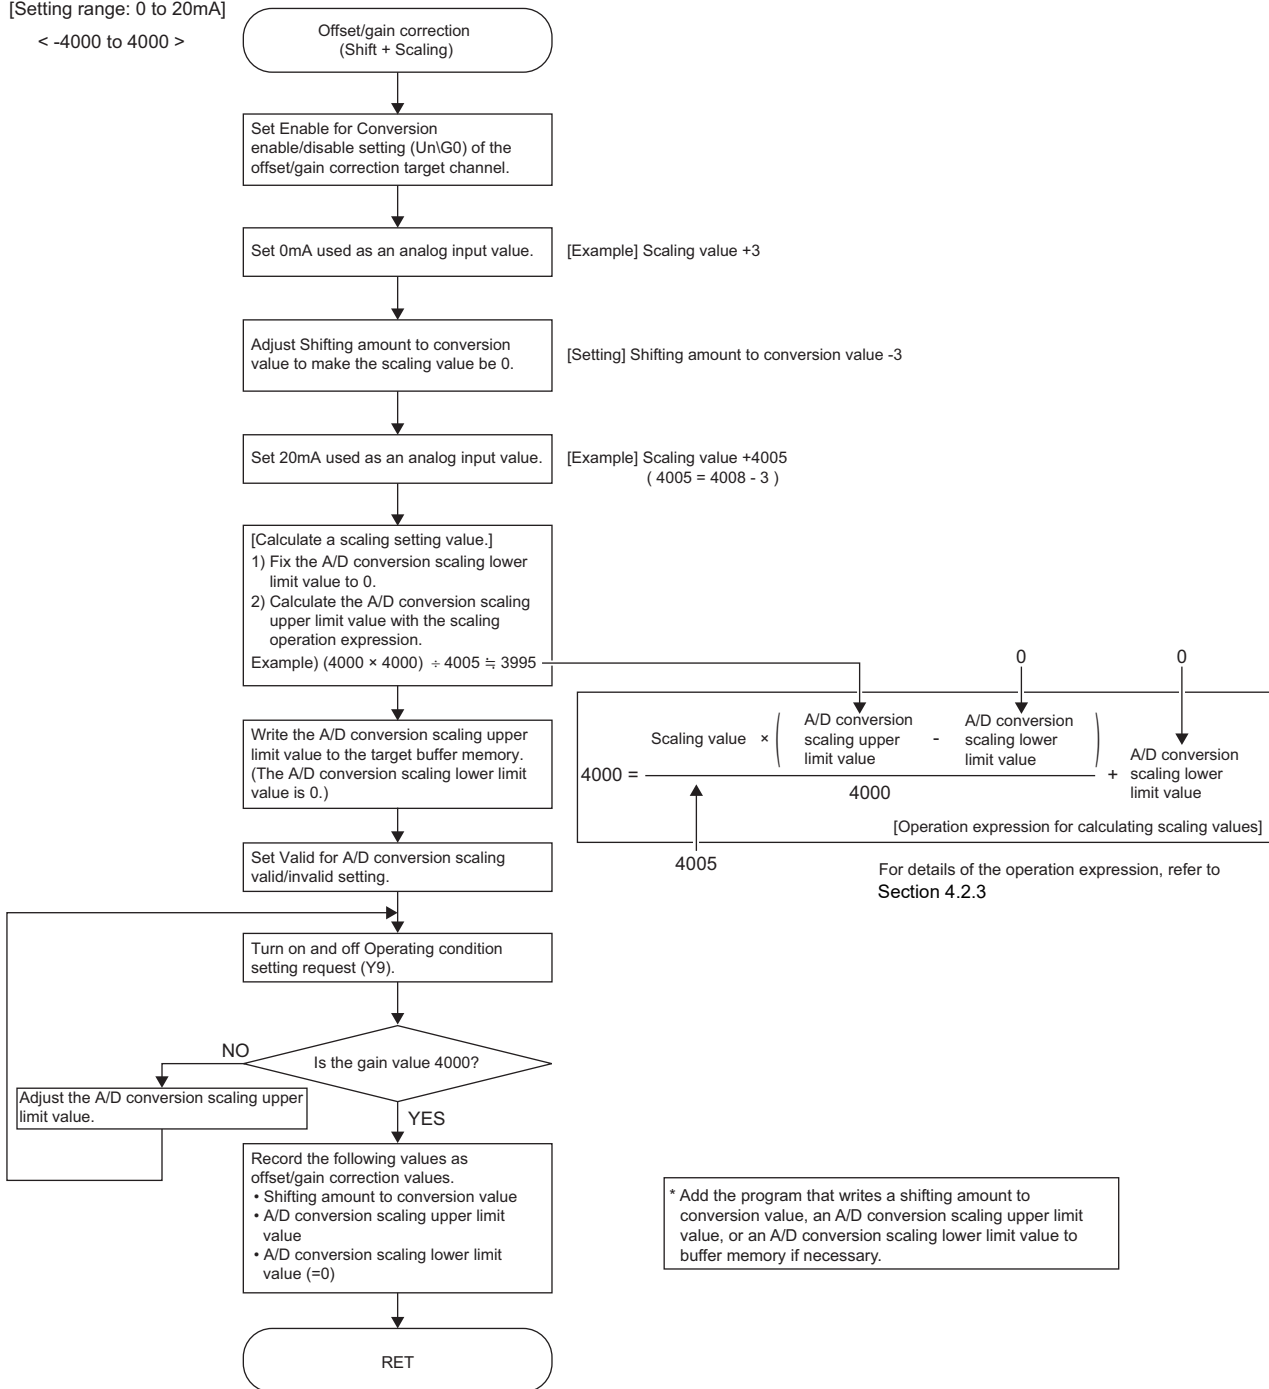

Figure 7.14 Offset/gain correction example (A/D conversion)
- (1) When offset/gain are corrected using the scaling function and shift function, resolution may be reduced. In the example of Figure 7.14, the resolution is reduced at 0.125%.
- (2) When offset/gain are corrected using the scaling function and shift function, the functions cannot be used for other applications.
- (3) When a module is replaced online, corrected offset/gain data are not taken over to a new module. Correct the offset/gain following the procedures in Figure 7.14 after online change.